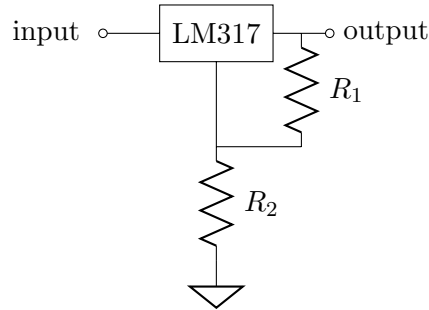

Figure 3: LM317 linear regulator circuit.
- b) For the circuit of Fig. 3, with sing an input voltage of 9V and  $R_1=510\ \Omega$ , what’s the value of  $R_2$  such that the output voltage is 5 V? What is the efficiency of the regulator in this case? “LM317” refers to the Texas Instruments LM317 voltage regulator IC. You should be able to find its datasheet online.